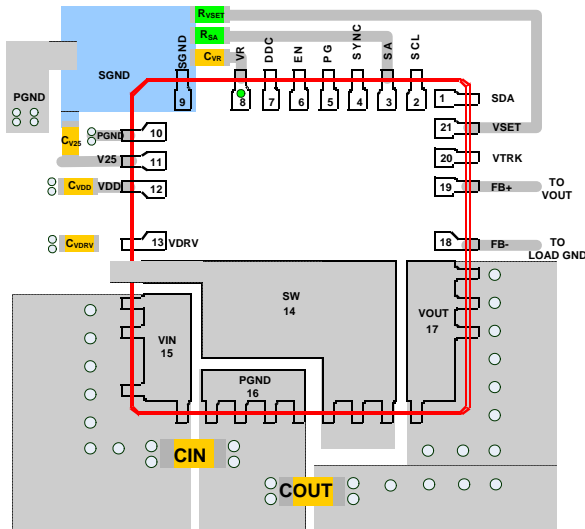

FIGURE 19. RECOMMENDED LAYOUT
- Establish a separate ground plane for SGND (pin 9) and PGND (pin 10 and pin 16) and connect them at a single point as shown in the Figure 19. CV25, CVR, RSA, and RVSET are placed on the bottom layer and are connected to a single SGND plane that is connected to the PGND at a single point. This will help to block the high frequency noise from entering to the controller via SGND.
- Place a high frequency ceramic capacitor between (1) VIN and PGND (pin 16), (2) VOUT and PGND (pin 16) and (3) bypass capacitors between VDRV, VDD, V25, VR and the ground plane, as close to the module as possible to minimize high frequency noise. High frequency ceramic capacitors close to the module